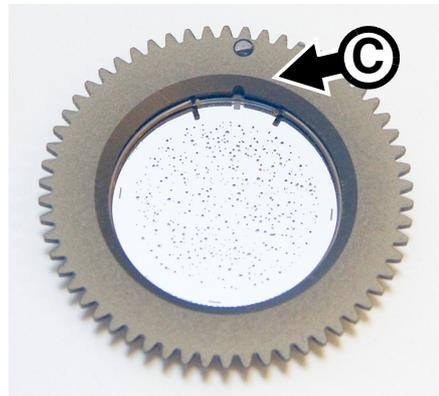
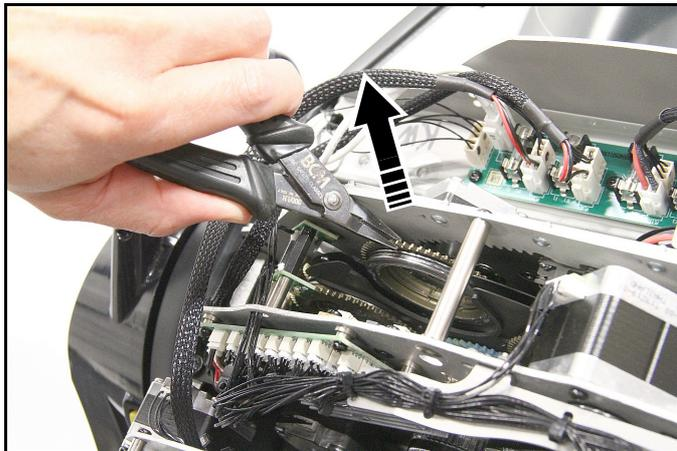

Figure 14: Goboholder reference mark
Figure 16: Removing a gobo from Gobo Wheel 2
2. With your fingers, rotate the gobo that you want to remove so that you line up a reference point (for example, the magnet and marking **C** shown in Figure 14) on the goboholder with a reference point in the module.
2. See Figure 16. With your fingers, rotate the gobo that you want to remove so that you line up a reference point (for example, the marking **C** shown in Figure 14 on page 22) on the goboholder with a reference point in the module.